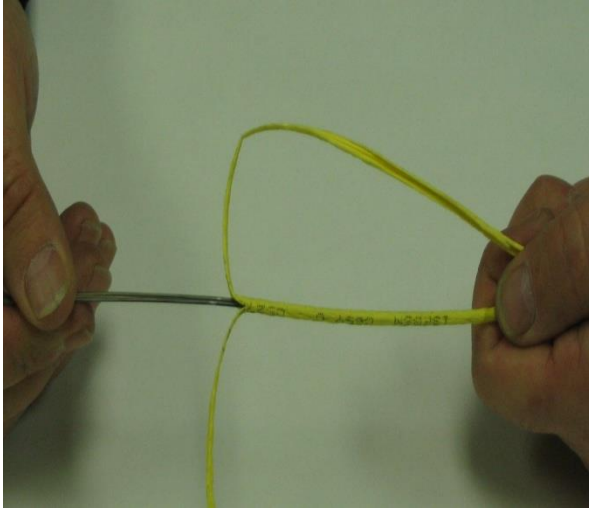

Figure 4
5.4 Use your fingernails to pull remaining foam back until it reaches point marked on outer jacket. If foam jacketing breaks during this step, re-engage with fingernails and continue. Then use scissors to carefully cut away outer jacket **See Fig. 4.**